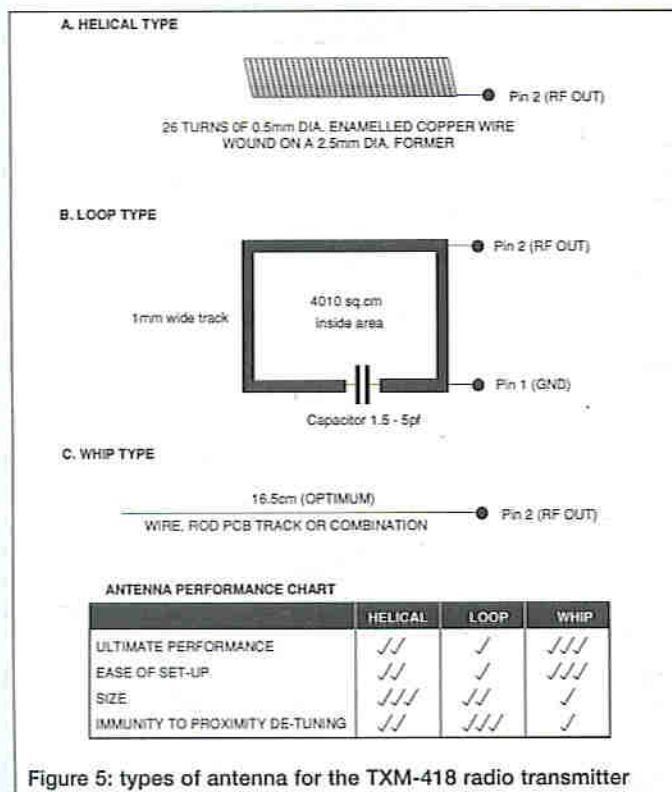

Figure 5: types of antenna for the TXM-418 radio transmitter
The antenna for the transmitter has three versions, the helical type, the loop type and the whip type (see figure 5). The helical antenna has a small size (17 mm length and 2.5 mm diameter). It has a high 'Q' factor and therefore needs to be optimised for the exact wavelength in use. The loop antenna consists of a loop of PCB track, which is tuned by a variable capacitor. The whip-type antenna is a wire, rod, PCB track or combinations of these. The optimum total length should be 16.5cm. Figure 5 compares the performances of these antenna.
1. The transmitting antenna must be one of the three variants given above (see figure 5).